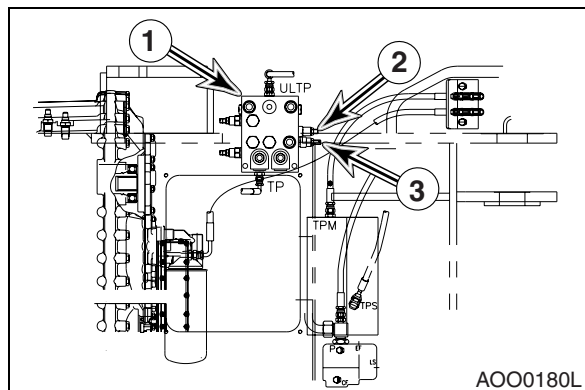

Figure 107
2. Adjust brake charge valve cartridge (2, Figure 107) on brake and pilot supply valve (1, Figure 107). Relief pressure for brake charging is $140/120 \text{ kg/cm}^2$ (1,990/1,707 psi).